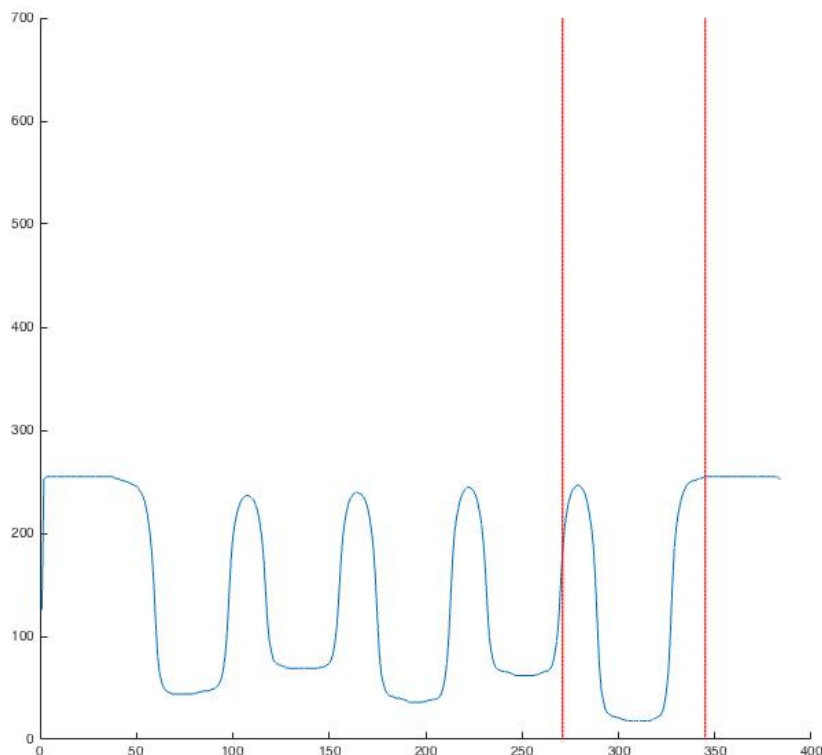

Fig. 7: Adjusting the profile width
A.2: The next step is to adjust the profile window (width). After following the steps 1-5 in section 2.1 check the box ‘Profile (H)’. Then an additional window will pop up with a horizontal profile. You can also keep it checked initially which will result in same outcome. As shown in the fig. 7, the two vertical red lines should enclose only one minima. Please, increase or decrease the values at the “Left” or “Right” text boxes on in window to move the change the position of the left and right window. To make these parameter changes permanent please see section 7.